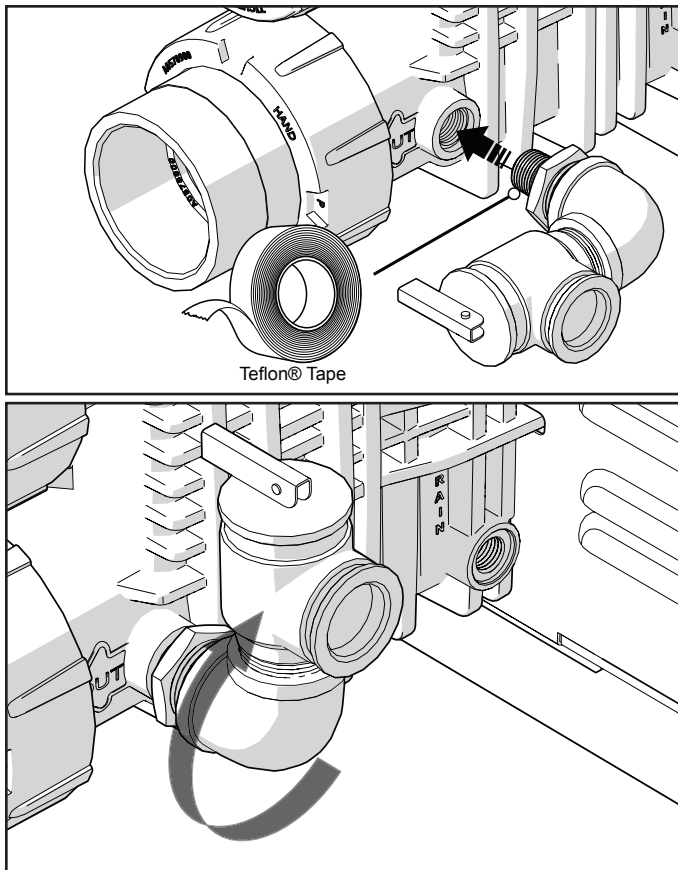

Figure 20. Install PRV Assembly at Heater Manifold
- Using the assembly as leverage make sure to get a snug fit. Do not overtighten. See "Figure 20. Install PRV Assembly at Heater Manifold" on page 21